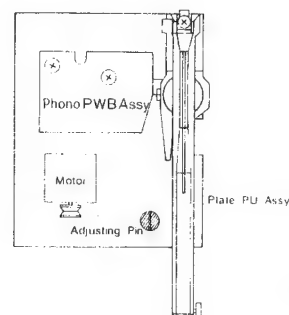

Figure 27
1. Remove the case top according to DISASSEMBLY INSTRUCTIONS (B) (page 3).
5. Turn the adjusting pin described in Fig. 27 so that the stylus set-down position will be counted between 15 and 17 points.
5. 針先降下位置が15~17カウントになるように調整ピンで調整する。(図27)